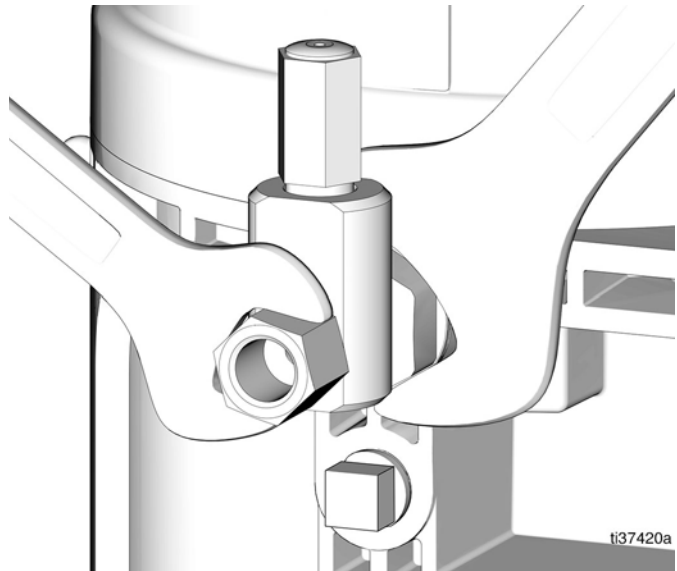

FIG. 21
3. Tighten the pump element fitting using two wrenches working in opposite directions (FIG. 21).